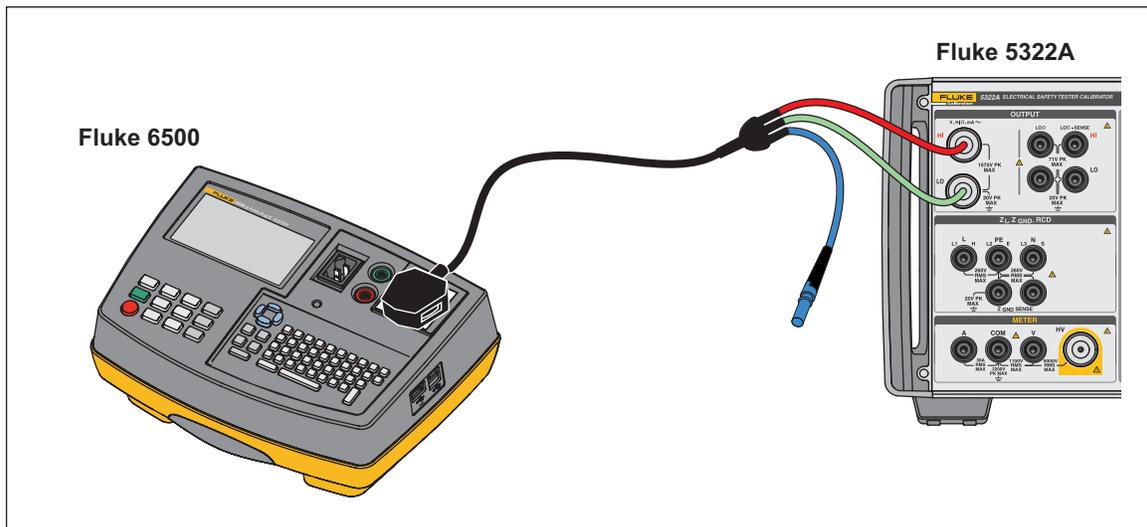

Figure 45. Passive Leakage Current Calibration on Fluke 6500
2. Connect the DUT to the Product **OUTPUT mA~ HI** and **LO** terminals as shown in Figures 45, 46, or 48.